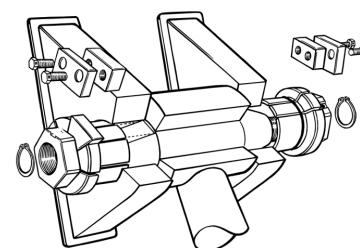

Fig. 3
Remember that the "locking segment" on the bolt must be facing the locking bracket (see Fig. 3).
- 4.1 The locking brackets are welded or screwed to the support. The locking brackets must be fastened to the support with a distance of 1-1.5 mm between the locking bracket and the taper's locking segment. After being fitted and tightened, the locking plate must lie all the way down to the hexagonal side of the nut (see Fig. 3 and 4).